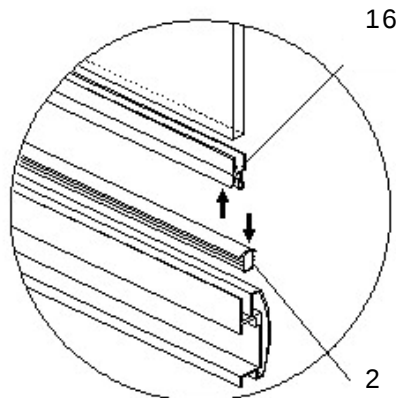

Figure 9
9. Attach the horizontal anti-water strip (16) to the bottom of the pivot door (11). Press the horizontal decorative strip (2) into the rail profile (1), both at top and bottom as shown in figure 9.